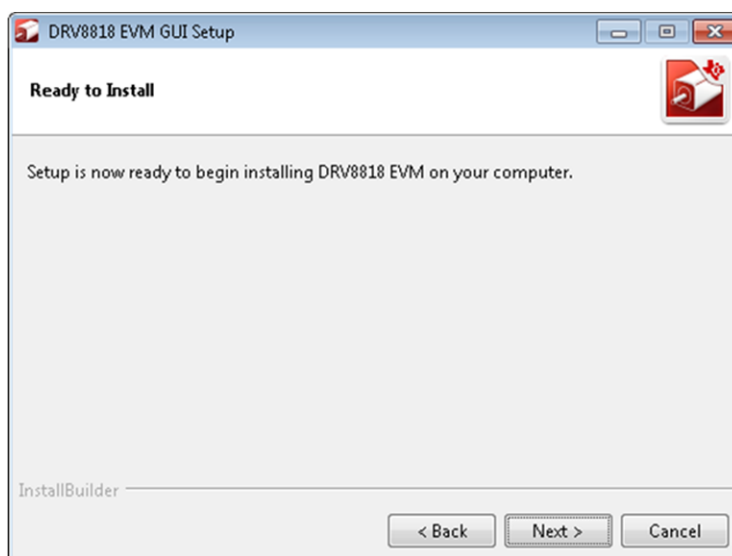

Figure 8. Ready to Install
8. A screen as shown in Figure 8 appears. Click **Next** to begin the installation.